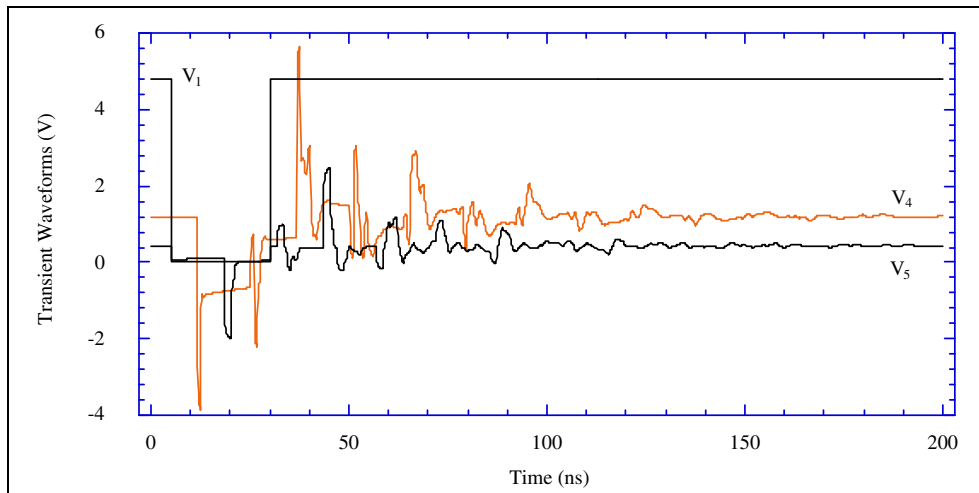

Figure 36 Simulation Results: Transient Waveforms
- Figure 36 on page 130 shows transient waveforms.